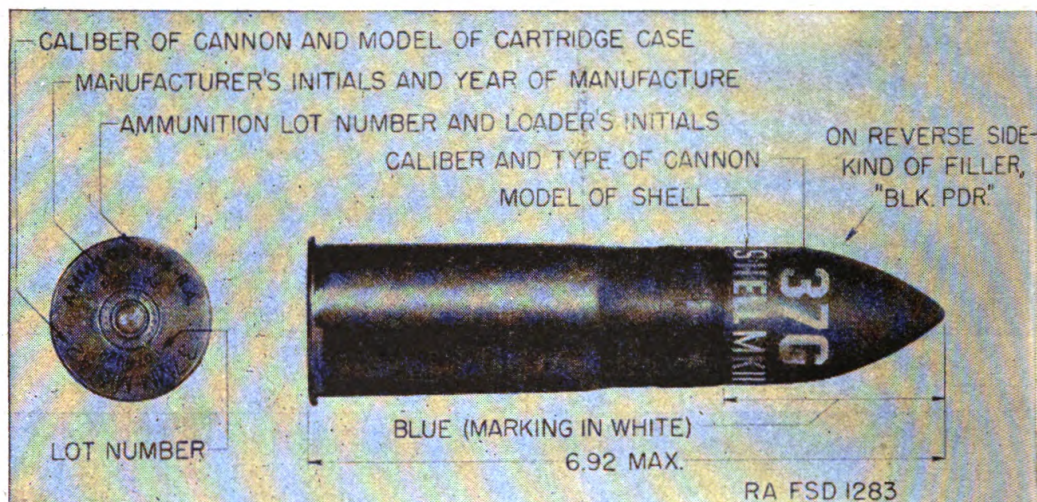

FIGURE 59.—Shell, fixed, practice, Mk. II, with fuze, practice, M38, 37-mm gun M1916.
**79. Subcaliber ammunition.—a. General.**—The shell, fixed, practice, Mk. II, with fuze, practice, M38, 37-mm gun, M1916, is authorized for use in the 37-mm gun M1916 when used for subcaliber purposes with the 155-mm gun M1 and M1A1. This ammunition is issued in the form of fixed complete rounds. The projectile is fitted with a base fuze and contains a low explosive filler of black powder. When used for target practice purposes, the low explosive serves as a spotting charge. The complete round is shown in figure 59, and may be identified by the marking indicated thereon.